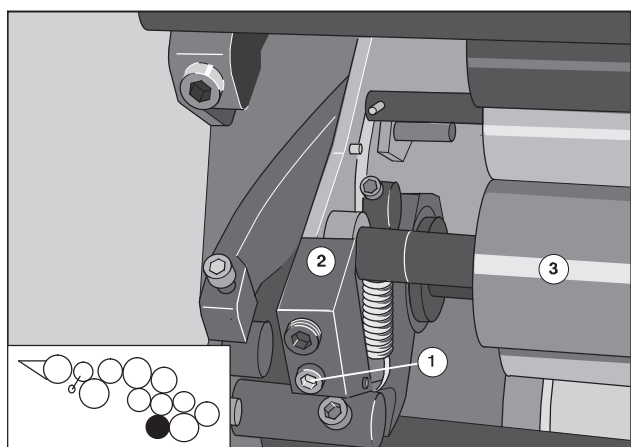

Fig. 18 Removing the 4th ink transfer roller
1. Unscrew the Allen screw (Fig. 18/1) with the operator tool; the screw remains in the latch (Fig. 18/2) on D.S. and O.S.
2. Fold the lever on D.S. (Fig. 18/2) and O.S. downwards.
3. Pull the 4th ink transfer roller (Fig. 18/3) towards the delivery out of the bearing.